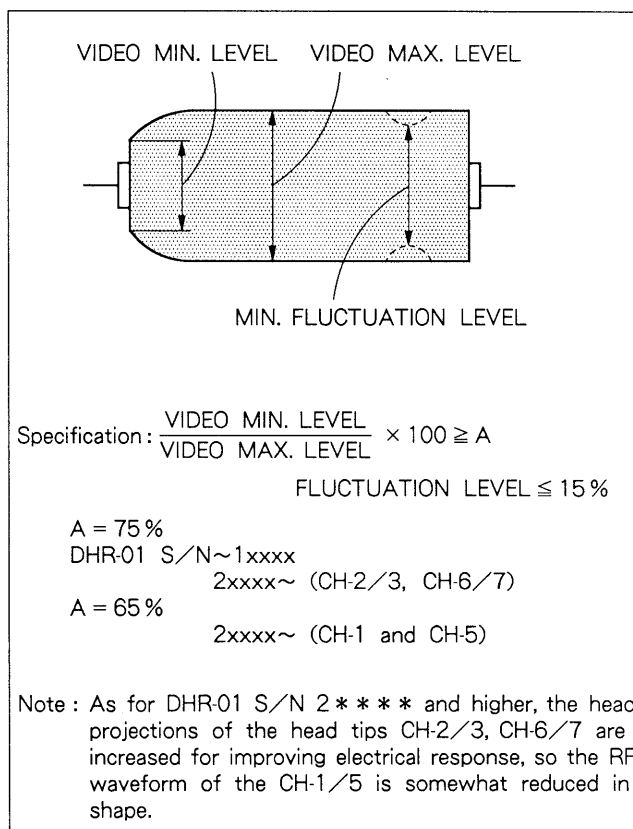

Fig. 9-13-2. Slow Waveform Check
3. Play back the recorded portion and check that the RF waveform is within the specification shown in Fig. 9-13-2.